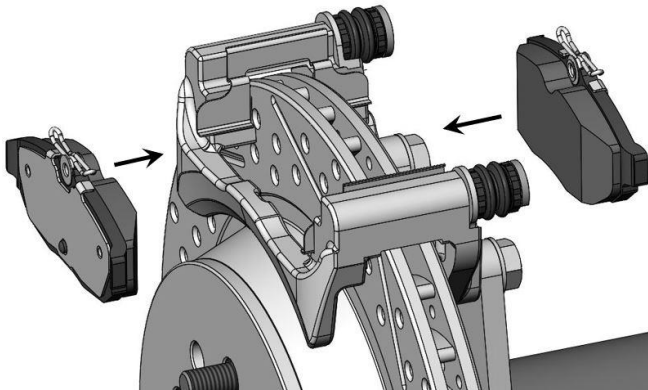
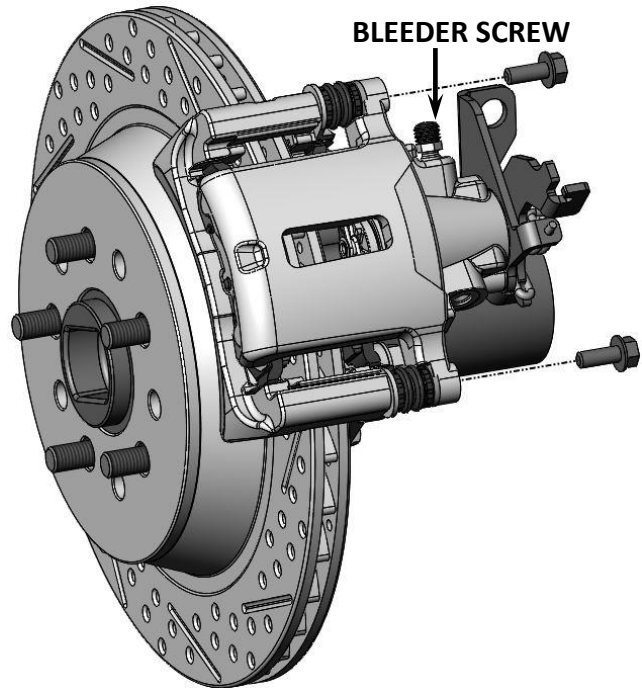

Figure 11a – Brake Pad Installation
Figure 11b - Caliper Installation and Bleeder Screw Orientation
12. With the Abutment Clips installed, Install the pads into the Caliper Anchor Bracket. Refer to Figure 11a on the next page for reference. Once the pads are installed slide the caliper body over the brake pads and Caliper Anchor Bracket. With the caliper in place, re-install the caliper mounting bolts between the caliper and the bracket. Torque the bolts to 30 lb/ft. **IMPORTANT:** Make sure that the bleeder screw is pointing upward. See Figure 11b on the next page for reference on installing the caliper.